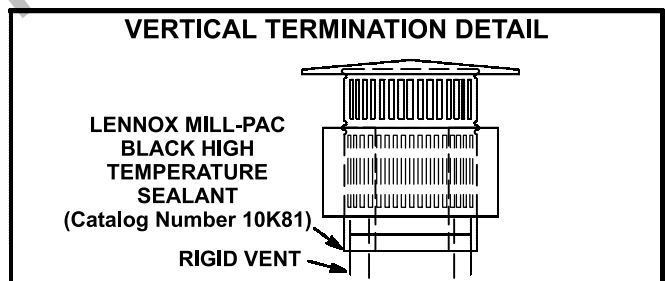
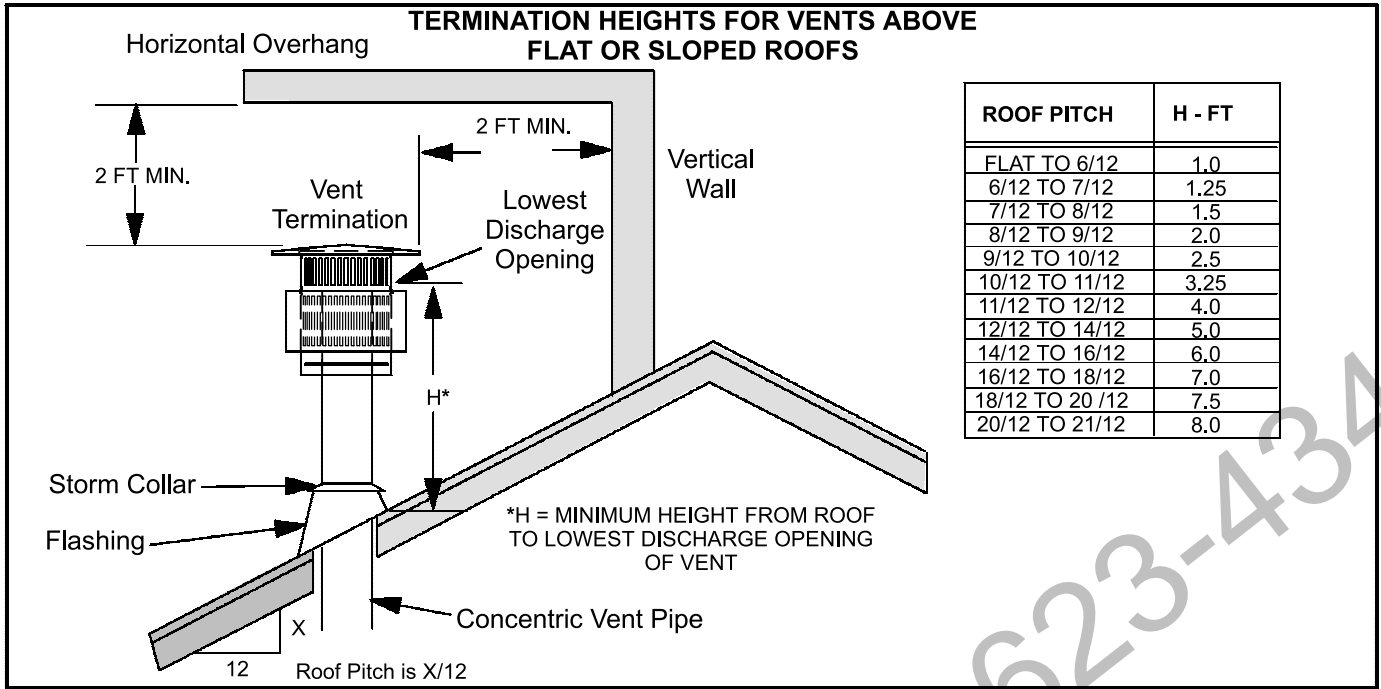

FIGURE 15
FIGURE22
Figure 15 provides a detail of the vertical vent termination. Figure 22 shows the minimum vent termination height requirements above a flat or sloped roof.
- 4 - Install the remaining vent sections and the vent termination. See figure 22 for minimum allowable termination heights above the roof and minimum allowable clearances to obstacles above the roof.